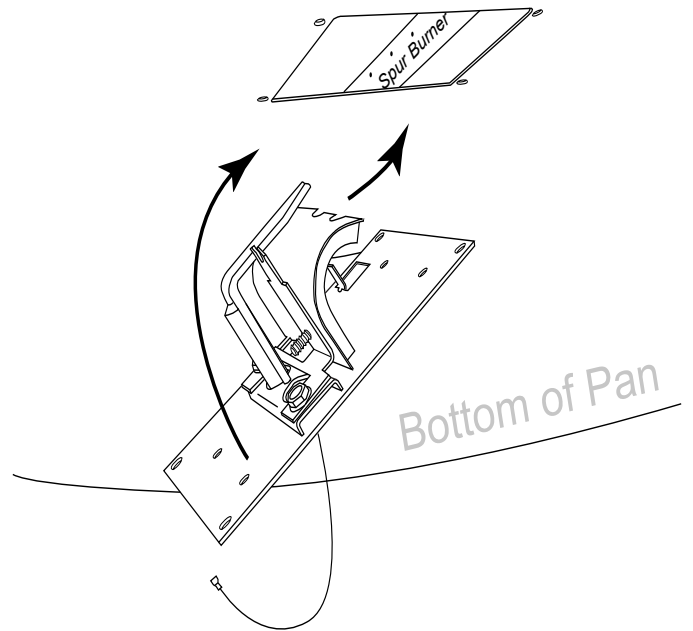
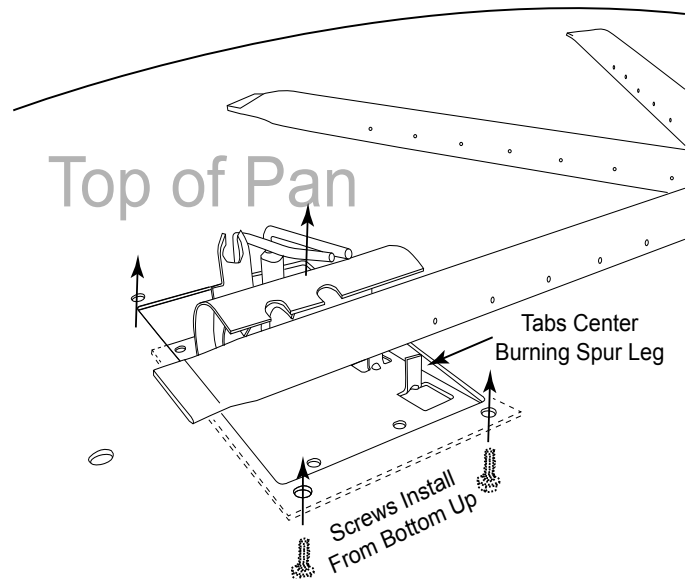

Fig. 2. Installing MSI assembly into bottom of pan.
Fig. 3. Installing screws from bottom of pan.
Step 3: Install the MSI ignition assembly from the bottom of the pan as shown in Fig. 2. **Note:** The hood will slide over top of the burner leg as shown in Fig. 3.
Step 4: Secure the MSI ignition assembly to the pan using the four previously removed screws. **Note:** The metal tab aligns the burner leg underneath the spur hood as shown in Fig. 3.